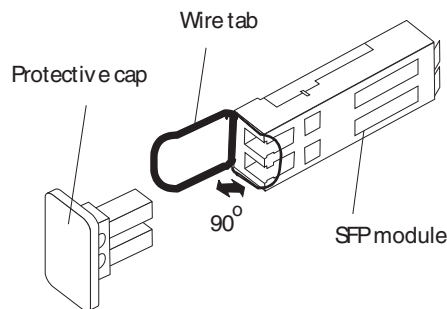

Figure 76. Unlocking the SFP module latch - wire variety
- For SFP modules that contain wire tabs, unlock the SFP module latch by pulling the wire latch outward 90°, as shown in Figure 76.